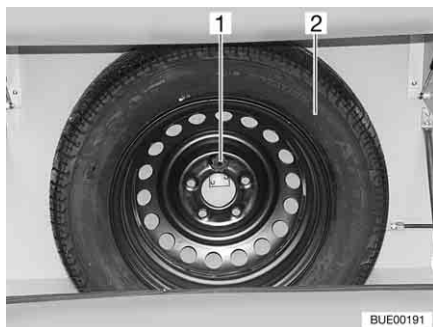

Fig. 212 Spare wheel support
The spare wheel support is fitted in the gas bottle compartment. The spare wheel (Fig. 212,2) is available for a surcharge.
- Undo bolt (Fig. 212,1).
- Remove the spare wheel (Fig. 212,2).